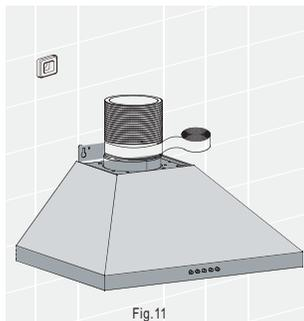

Fig.11
- 6b. Ducted mode (Fig. 11) insert flexible pipe and secure flue tape to air outlet with suitable duct tape.